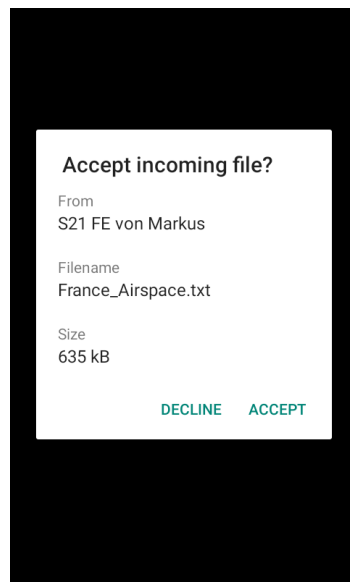

Fig.2
- Accept the incoming transmission on your XCNAV EDITION (fig.2)